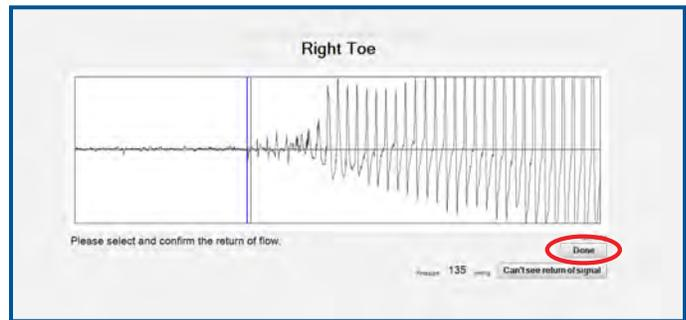

FIGURE 1.25 - Right Toe Return of Flow - "Done" Button
30. After pressure has been released from the cuff, indicate the return of flow as recorded by the PPG probe and click "Done" (Figure 1.25).